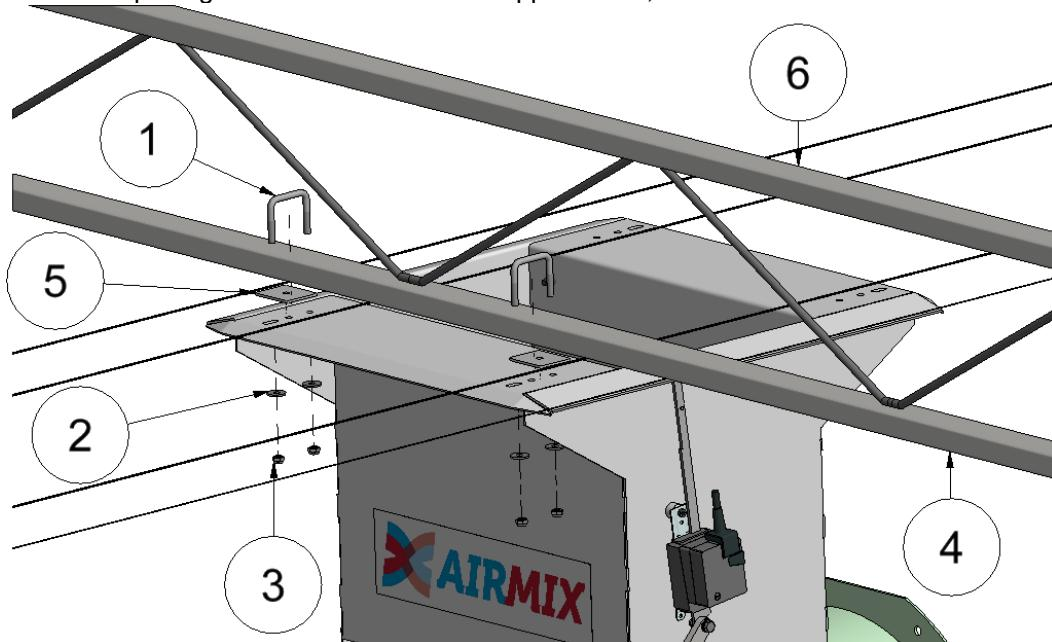

Figure 3 Attaching the Airmix to the truss lattice
- Assembly (see Figure 3):
- Attach the Airmix to the lower bar of the truss lattice (4) with two clamps (1), four M8 fender washers (2) and four M8 lock nuts (3);
- Use the padding strip (5) between the truss lattice bar and Airmix housing to create an opening of 3mm for the screen support wires;